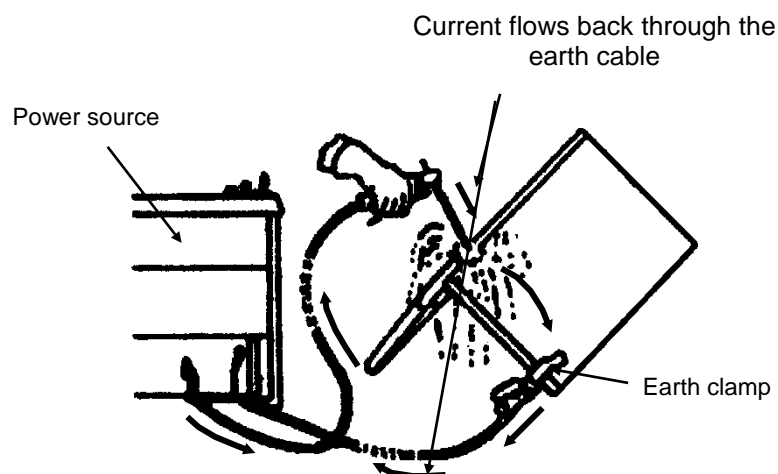

FIG 22.
- To complete the circuit the current then flows from the earth clamp through a flexible cable back to the power source. (Fig 22)